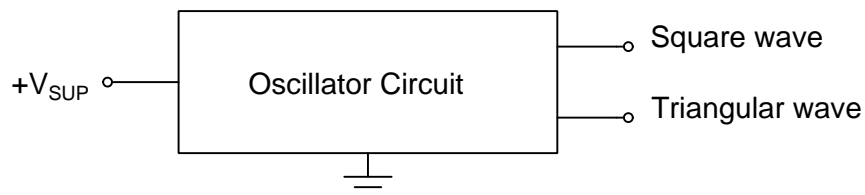
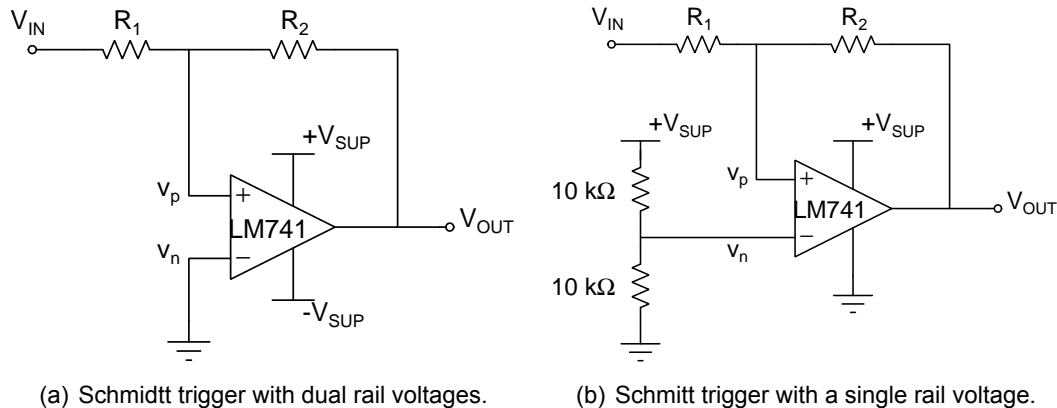
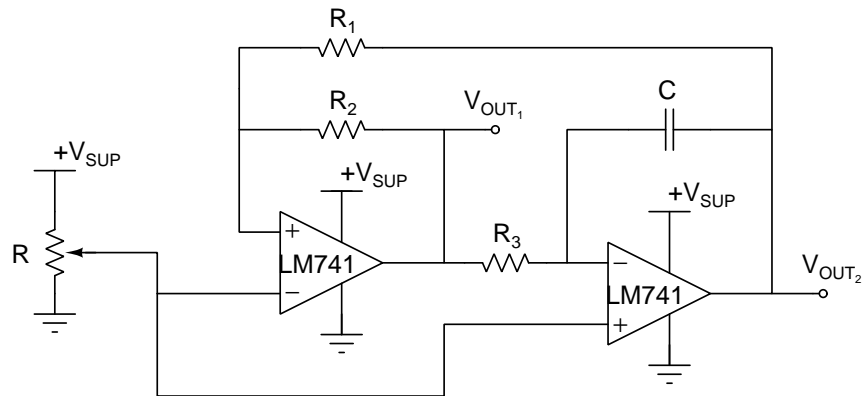

Figure 1: Block diagram of the oscillator circuit showing the inputs and outputs.
Figure 2: Schmitt trigger circuit using an Op Amp with positive feedback.
Figure 3: Oscillator circuit using a Schmitt trigger and an inverting integrator.
Two LM741 Operational Amplifiers (OpAmps) are used to produce an oscillator. A block diagram, showing the inputs and outputs, is shown in Figure 1. The input to the circuit is a DC voltage of $+V_{SUP}$. The output of the circuit consists of a $\sim 10 V_{pp}$ square wave and a $\sim 5 V_{pp}$ triangular wave. The oscillator is formed by connecting the output of a Schmitt trigger, shown in Figure 2, to the input of an inverting integrator (see Lab #4), and then connecting the output of the inverting integrator back to the input of the Schmitt trigger. The complete oscillator circuit is shown in Figure 3.
1. There are many ways to implement a Schmitt trigger. One method uses an OpAmp configured with positive feedback as shown in **Figure 2(a)**, for a dual-rail OpAmp, and **Figure 2(b)** for a single-rail OpAmp. In these circuits, the output of the OpAmp (V_{OUT}) is connected through resistor R_2 to the **non-inverting** input (v_p) of the OpAmp. This results in an amplifier circuit with positive feedback.
Assume the OpAmp in **Figure 2(b)** is ideal. Analyze this circuit and derive an equation for the two trigger levels in terms of the resistor values R_1 and R_2 . When $R_1 = 3\text{ k}\Omega$ and $R_2 = 12\text{ k}\Omega$, calculate the trigger levels that cause the output to switch from zero to $+V_{SUP}$, and from $+V_{SUP}$ to zero, and
2. For the Schmitt trigger circuit in **Figure 2(b)**, determine values for resistors R_1 and R_2 so that the separation of the Schmitt trigger levels are $5 \pm 0.25\text{ V}$. Assume the OpAmp is ideal and $+V_{SUP} = 12\text{ V}$. With the chosen values of R_1 and R_2 , what are the two Schmitt trigger levels?
3. Simulate the transfer function of the Schmitt trigger circuit in **Figure 2(b)** with the resistor values you calculated in **item 2**. Set the power supply voltage ($+V_{SUP}$) to 12 VDC , and the input voltage (V_{IN}) to a DC voltage source. Use DC analysis to sweep the input voltage between 0 to 12 V . A MATLAB® file for NGspice is available at https://ece214.davidkotecki.com/docs/Matlab/ECE214_2022_Lab5_Schmitt.m. Analyze the simulated behavior of the circuit using both the ideal OpAmp and the LM741 OpAmp.
- Describe the function of the circuit shown in Figure 3. Assume the variable resistor is set to the mid-point resistance. Sketch the shape of the expected output signals V_{OUT1} and V_{OUT2} as a function of time.
- Perform a transient simulation of the circuit of Figure 3 using the Ideal OpAmp. What is the simulated value of the oscillation frequency? What is the duty cycle? A MATLAB® file for NGspice is available at https://ece214.davidkotecki.com/docs/Matlab/ECE214_2022_Lab5_Osc.m.
- Perform a transient simulation of the circuit of Figure 3 using the LM741 OpAmp. Since the OpAmp is not ideal, the value of R_3 you calculated may be off by as much as 20%. Adjust the value of R_3 to produce an oscillation frequency of 1.5 ± 0.1 kHz.